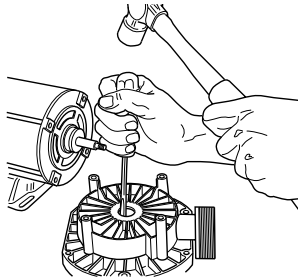

Figure 16
9. Remove motor throughbolts (see Figure 15). Remove seal plate (Key No. 9). Tap stationary half of seal out of seal plate (see Figure 16).